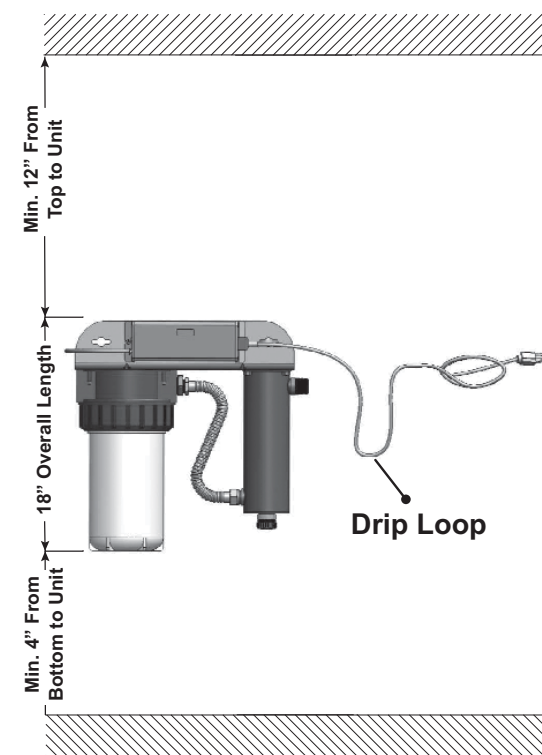

Figure 3 Disinfection Installation
The disinfection system is designed to be installed at point-of-entry. Drip loops in all cordage connected to the controller is highly recommended. Refer to Figure 3.
2. Select a suitable location for the disinfection system and its related components. As it is recommended to install a ground fault protected circuit (GFCI), make sure that this is taken into consideration prior to any installation. When selecting a mounting location, enough space must be left to allow for the removal of the UV lamp sleeve, as well as enough space to change out the filter cartridges. See Figure 3 for typical clearance dimensions.
4. Make sure you allow for a “drip-loop” on the power cord to prevent any water from potentially entering the controller. Refer to Figure 3.